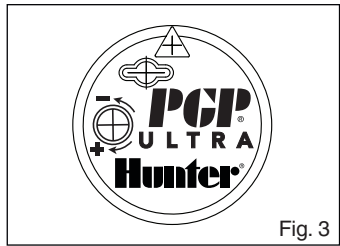

Fig. 3
- Insert the plastic key end of the Hunter wrench into the adjustment socket (Fig. 3 & 4).